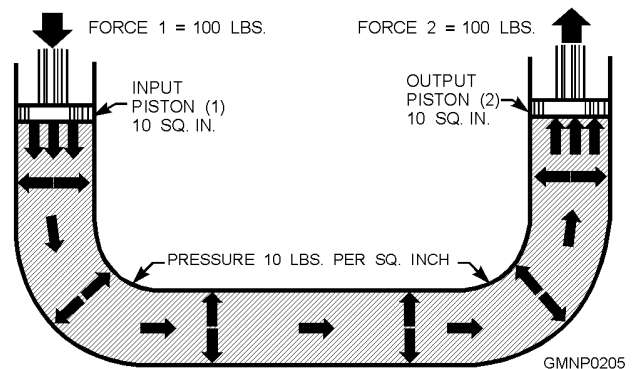
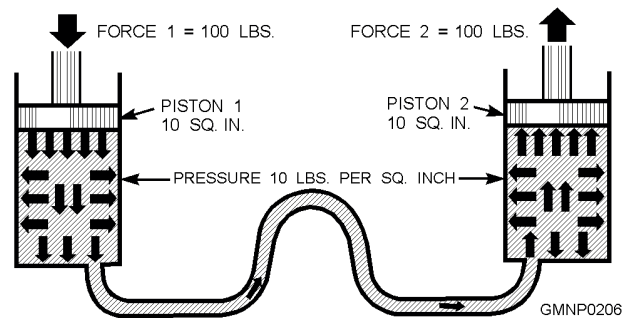

Figure 4-13.—Force transmitted through fluid.
Figure 4-14.—Transmitting force through a small pipe.
Let's deal first with the transmission of applied force. There are two qualities of fluid that make them useful as a means to transmit force. They are (1) they take the shape of their containers and (2) they are not compressible. Therefore, pressure applied to a fluid in a closed container will be felt equally against the entire inside surface of the container. The force is transmitted equally in all directions as illustrated in figure 4-13. This is true regardless of the shape of the container. This means that it is not necessary for the tube connecting the two pistons to be as large as the pistons throughout. A connection of any size, shape, or length will do, as illustrated in figure 4-14. The size of the line, however, will determine the volume of fluid flow, which, in turn, affects operating speed.
In figures 4-13 and 4-14, the systems contain pistons with the same area. This makes the output force equal to the input force. Remember what we said earlier—the force applied is transmitted to all surfaces